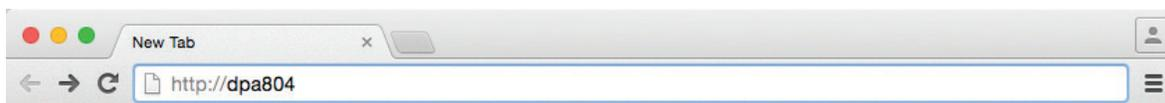

Figure 1
4. In the Web Browser address bar, type in the following: `http://DPA804` and hit enter. For this example we are connecting to the DPA model DPA804. An example is shown in Figure 1.